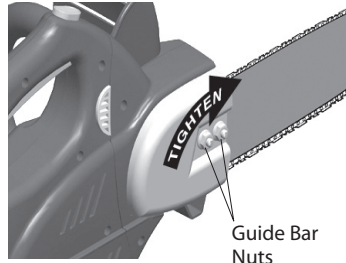

Figure 11 - Tighten Guide Bar Nuts
5. After chain tension is correct, tighten guide bar nuts firmly (see Figure 11).